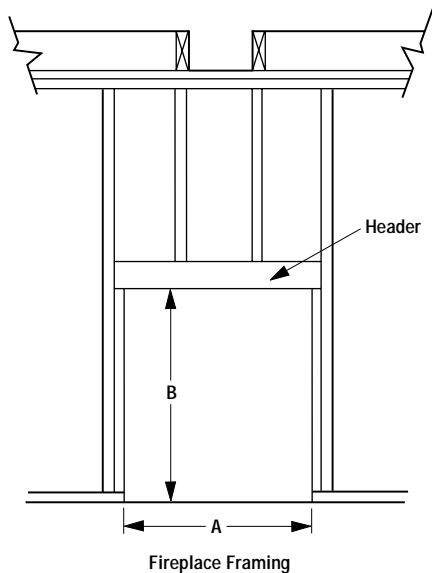

Figure 11
Step 3. Refer to fireplace drawings and specifications on pages 6 and 7 for framing dimensions and details. Frame appliance enclosure as illustrated in **Figures 11 through 14** on page 7.